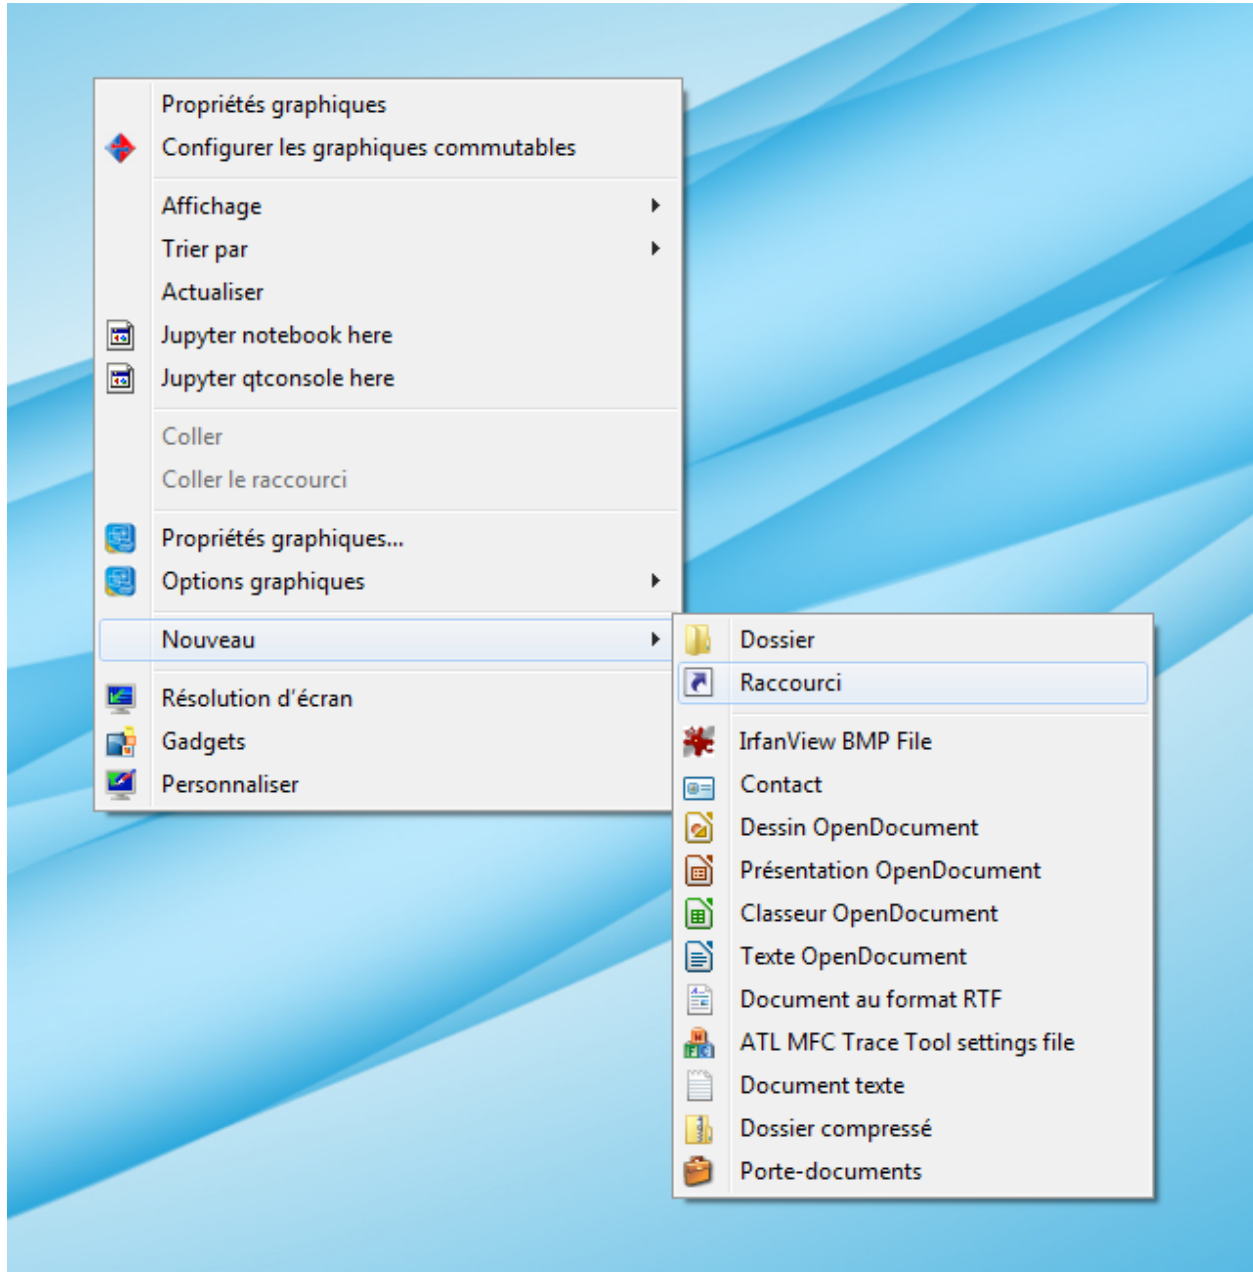

Fig. 4.2: Create a shortcut on your desktop
- First create a shortcut (see Fig. 4.2) on your desktop (pointing to any file or program, it doesn't matter)